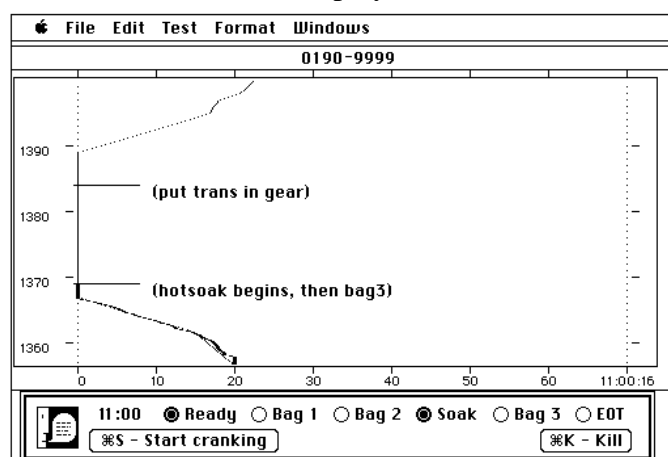

Figure 14
- 330 To start sampling, press <Command-S> and ensure that the “Bag 3” indicator is on; then crank the engine. See Figure 14.